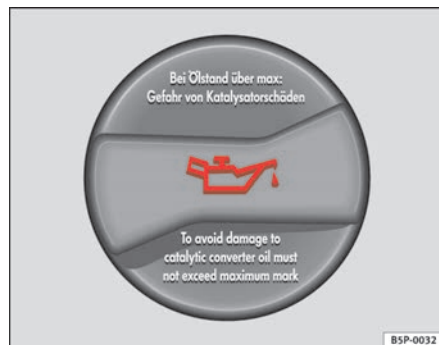

Fig. 142 In the engine compartment: Engine oil filler cap
- Unscrew cap from oil filler opening ⇒ **fig. 142**.